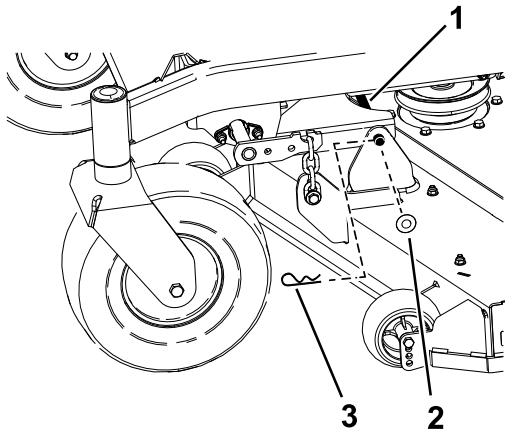

Figure 76
5. Remove the hairpin cotter and washer securing the link pin to the frame and deck, and remove the link bar (Figure 76).
9. Secure the link pin with the hairpin cotters and washers removed previously (Figure 76).